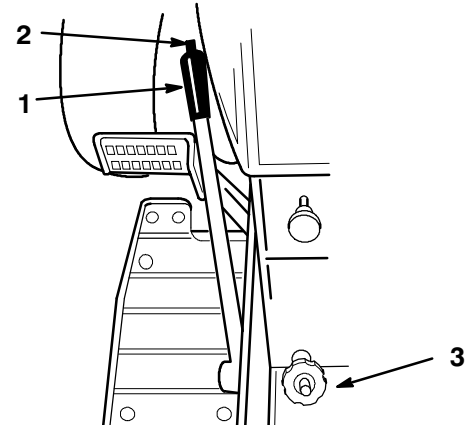

Figure 14
The attachment lift lever (Fig. 14) is used to raise and lower various attachments.
The Dial-A-Height control (Fig. 14) is used to limit the downward travel of attachments other than mowers. For example, use the Dial-a-Height to hold the blade or snowthrower above a gravel drive to prevent picking up stones or hold the tiller at a selected depth. For mowing, turn the Dial-a-Height fully counterclockwise until the knob contacts the plastic thread cap, so the mower can move through its full range of travel. Use the mower's height control to set cutting height. To use the Dial-a-height:
1. Raise the attachment lift lever: Refer to Raising Attachments. In the raised position the Dial-A-Height knob (Fig. 14) can be rotated to change the stop location. Turn right to raise and left to lower the height of the attachment.